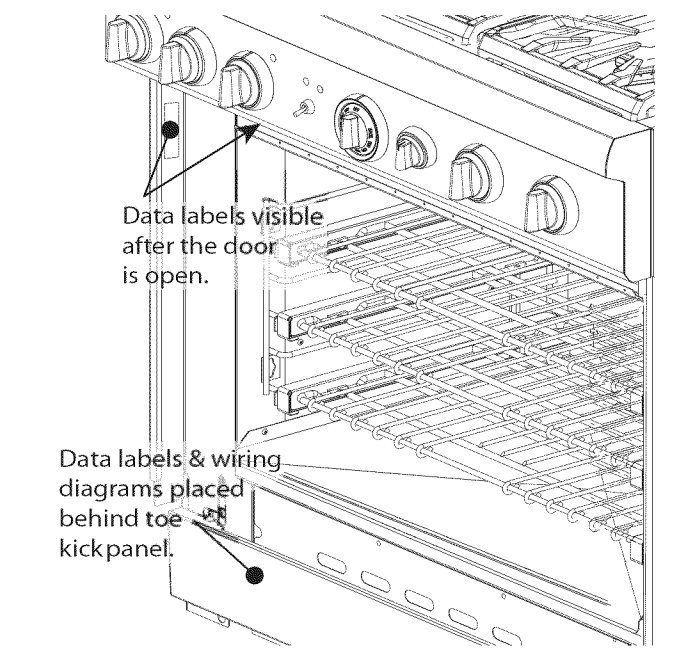

Figure 28: Data Rating Label Location
- To reach a service representative, see the contact information on the back page of this manual. Please be prepared with the model and serial number information from the product data rating labels (see *Figure 28 on page 24* for location).